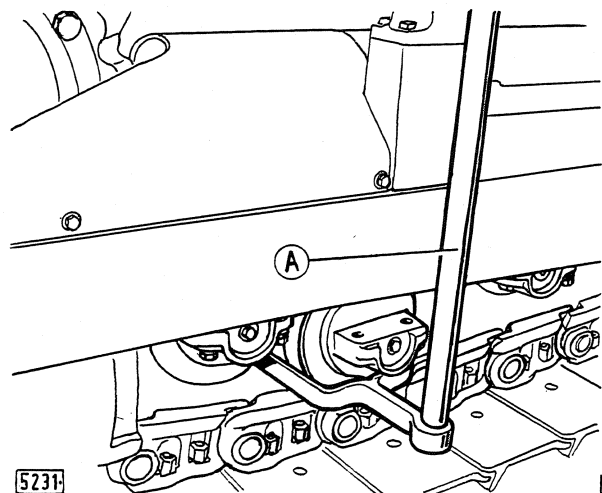

Fig. 11-16 - Removal (installation) of a roller from track frame using tool 75295729 (A).
- Removing frame roller guards and the complete roller with the aid of the sling hook 7529 1667 (A, Fig. 11-16).